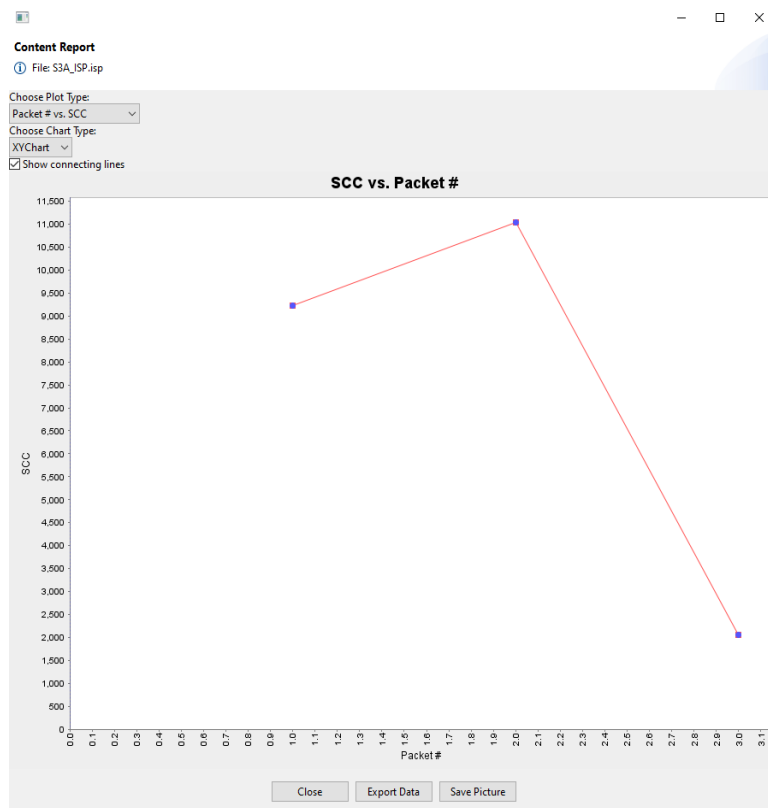

Figure 35: Data plotting dialog - XY Chart
3. When finished, the plot is shown in dialog (Figure 35). The user can display the several plot types, by selecting them in the top combo box. The user can also select between the available chart types: XY Chart and Pie Chart.